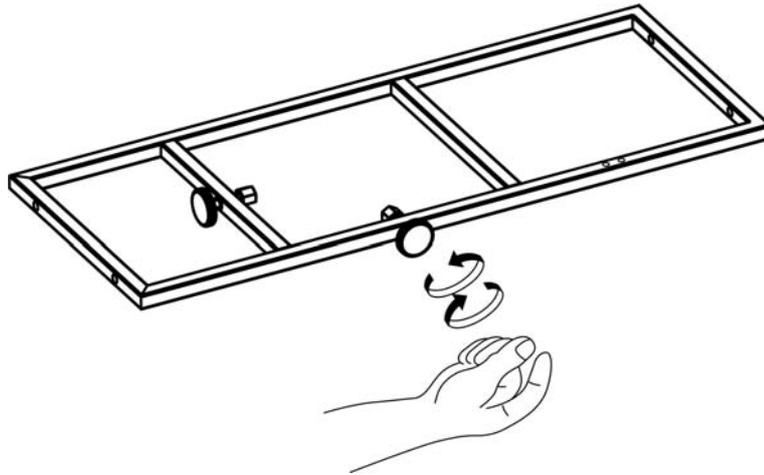

Figure 7
8. Tighten the threaded knobs found on the tank tray (Figure 7) so that the LP tank cannot move from side to side. Do not remove the plastic cap from the end of the threaded section.